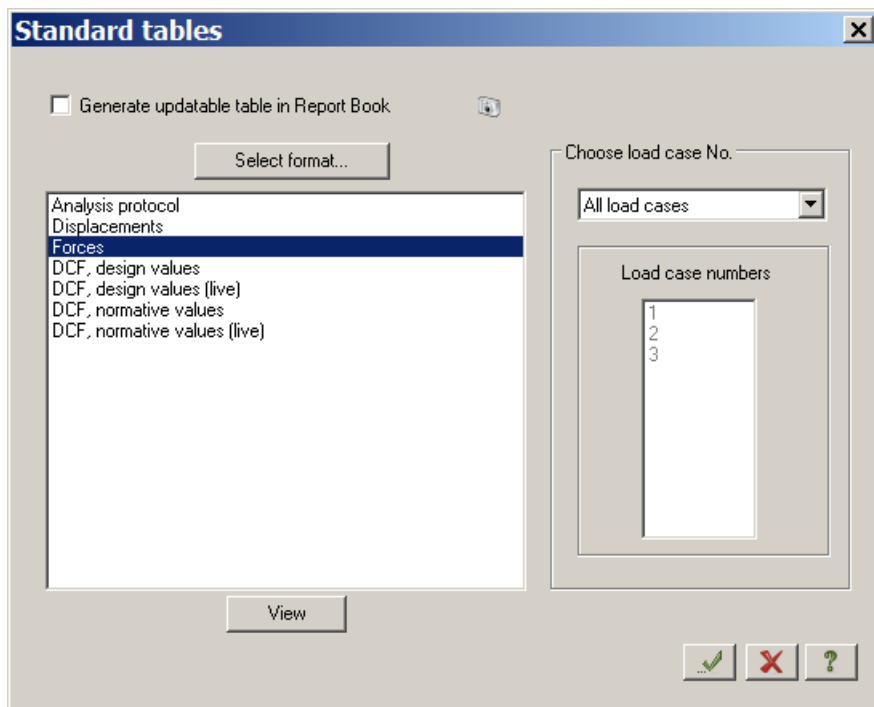

Figure 11.23 **Standard tables** dialog box
- ⇒ In the **Standard tables** dialog box (see Fig. 11.23), select **Forces** in the list.
- ⇒ In the **Standard tables** dialog box (see Fig.11.23), select **Periods of vibrations** in the list.